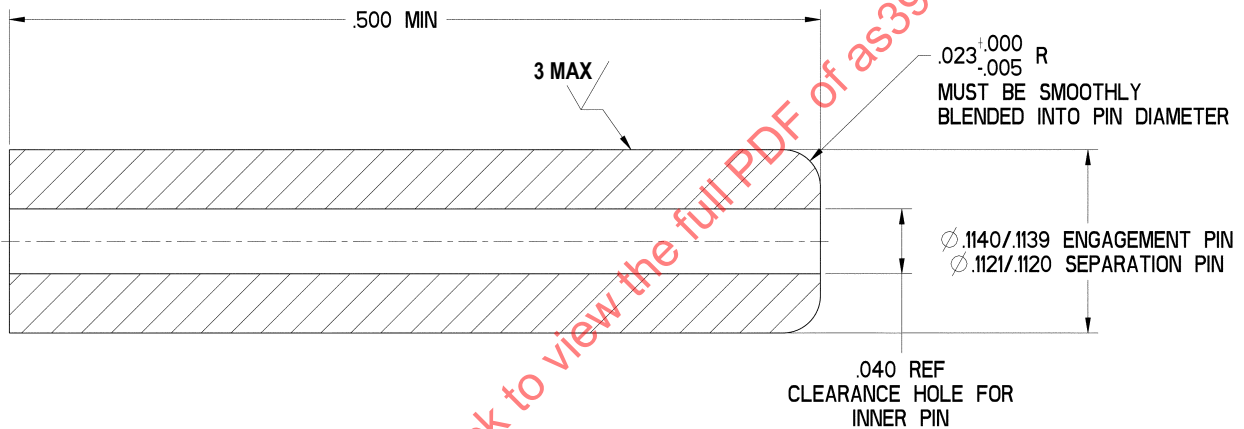

FIGURE 6 - ENGAGEMENT AND SEPARATION TEST PIN DIMENSIONS
3. Point at which square ended pin of the same basic diameter as the mating contact first engages the intermediate contact spring. (See Requirement 5) Provisions for clearance hole shall be provided for the test pin. (See drawing and Figure 6).
CONTACT ENGAGEMENT AND SEPARATION FORCE: THE ENGAGEMENT AND SEPARATION FORCES SHALL BE TESTED WITH TEST PINS INSERTED A MINIMUM OF 0.070 INCH. THE TEST PINS SHALL BE IN ACCORDANCE WITH FIGURE 6. ENGAGEMENT AND SEPARATION FORCES SHALL BE AS SPECIFIED IN TABLE 5.